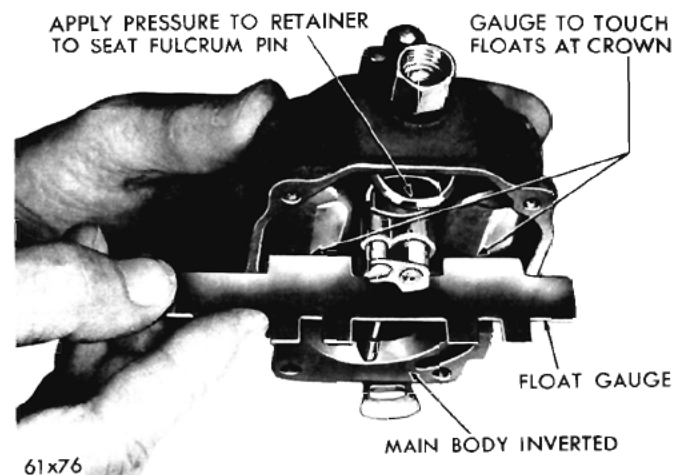

Fig. 12—Measuring the Float Setting
(1) Install the floats with the fulcrum pin and pin retainer in the main body.
(2) Install the needle, seat and gasket in the body and tighten securely.
(3) Invert the main body so that the weight of the floats **only**, is forcing the needle against the seat. Hold finger against retainer to fully seat the fulcrum pin.
(4) Using Tool T109-282 or T109-220; or a T scale, check the float, as shown in (Fig. 12). There should be  $\frac{1}{4}$  or  $\frac{9}{32}$  inch (Taxi) (depending on carburetor, Refer to Specifications), from the surface of the fuel bowl to the crown of each float at the center.